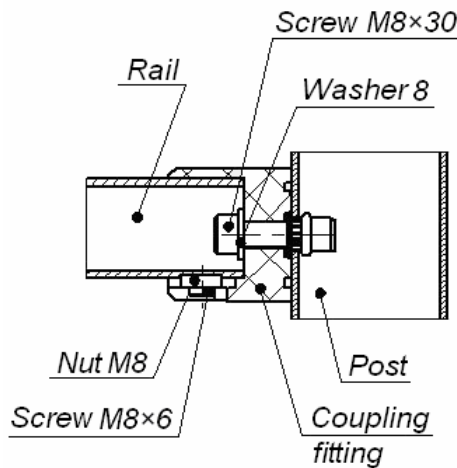
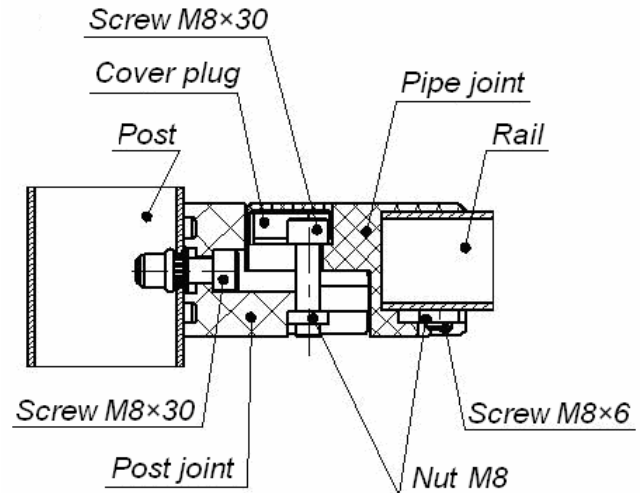

Fig. 9 Fastening of rails to posts using BH-01 0-00 standard coupling fittings
Fig. 10 Fastening of rails to posts using BH-01 0-01 adjustable coupling fittings
2. Fix two coupling fittings to the both railing posts with M8×30 screws (see Fig. 9, Fig. 10). Screws are included into coupling fitting delivery set.